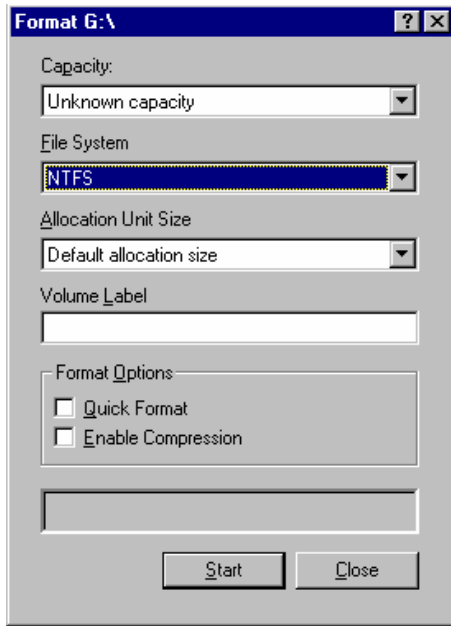

Figure 3.8 Formatting the Partition
8. Select **Next** to format the partition as specified. When the format warning is displayed (this new format will erase all existing data on disk), select **OK** to continue. The Format panel displays the progress of the format partition operation (see Figure 3.8).